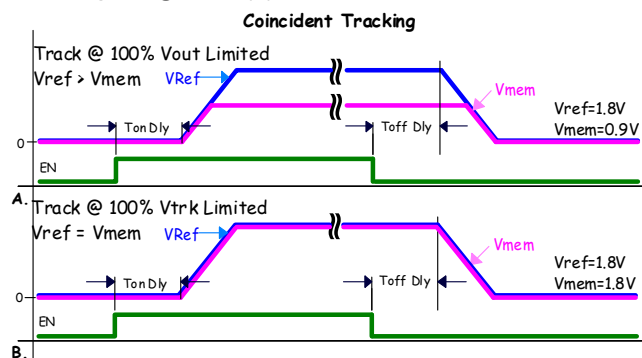

FIGURE 20. COINCIDENT TRACKING
Figure 23 is an example of a basic pin-strap tracking configuration. The VTRK pin is an analog input that, when tracking mode is enabled, the voltage applied to the VTRK pin performs as a reference for the device's output voltage. The ZL2106 offers two modes of tracking: coincident and ratiometric. Figures 20 and 21 illustrate the output voltage waveform for the two tracking modes.
- a. Track at 100%  $V_{OUT}$  limited. Member rail tracks the reference rail and stops when the member reaches its target voltage, Figure 20 (A).
- b. Track at 100% VTRK limited. Member rail tracks the reference at the instantaneous voltage value applied to the VTRK pin, Figure 20 (B).
The configuration settings for Figures 20 and 21 are shown below in Figure 22. In each case the reference and member rise times are set to the same value.
| Tracking Configuration Figure 20 (A) |                  |                  |                   |                   |                    |                   |
| Tracking Configuration Figure 20 (B) |                  |                  |                   |                   |                    |                   |